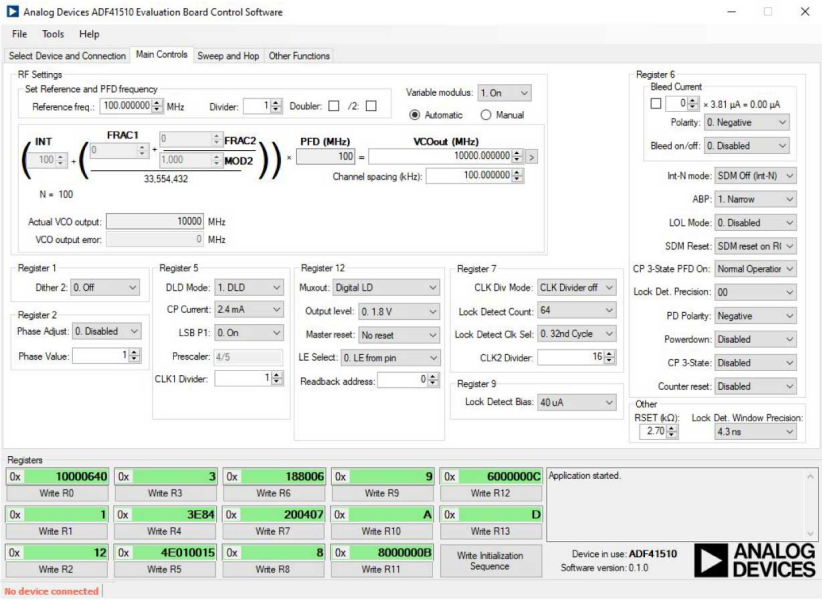

Figure 6. Software Front Panel Display, Main Controls Tab
The **Main Controls** tab (see Figure 6) selects the RF and user configurable register settings. Consult the register descriptions of the ADF41510 data sheet for details. The default setting is recommended for most registers.
10. Click the **Main Controls** tab, and set the **VCOout (MHz)** box to a frequency of 10,000 MHz (see Figure 6).